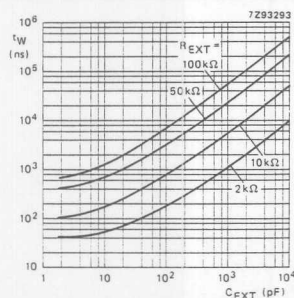

Fig. 9 Typical output pulse width as a function of the external capacitor values at $V_{CC} = 5.0 \text{ V}$ and $T_{amb} = 25^\circ \text{C}$.
1. For other R_{EXT} and C_{EXT} combinations see Fig. 9.